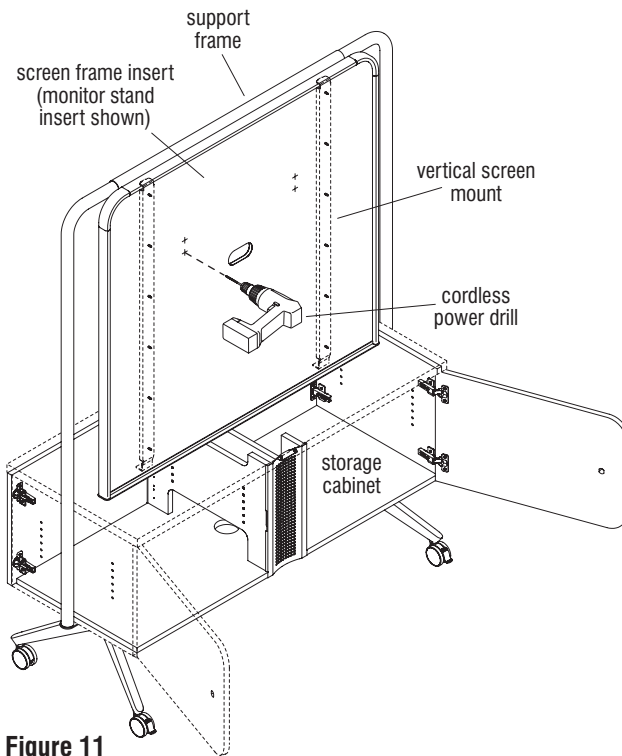

Figure 11
1. Use a spirit level and/or tape measure and position the monitor mounting bracket (customer supplied – yours may vary) onto the screen insert to assure the bracket is centered and level. Using the monitor mounting bracket as a template for hole marking and pre-drilling, make sure that the marked mounting holes are not in-line to drill through either of the two vertical screen mounts on the back of the frame. Mark and pre-drill mounting holes (Figure 11).
2. Follow the monitor bracket manufacturer's instructions and attach/hook the rear bracket of the monitor onto the insert-installed monitor mounting bracket, while at the same time guiding the monitor cord through the monitor stand insert cutout, down through the storage cabinet cutout and into the cabinet (Figure 11).